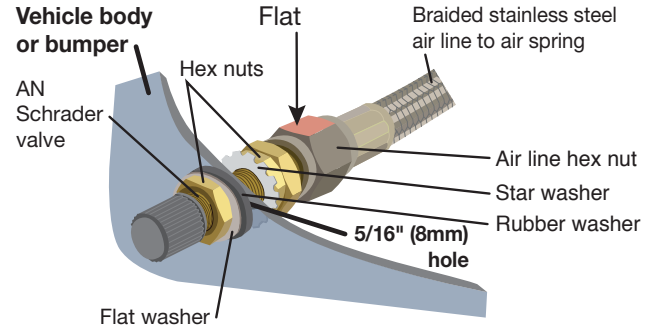
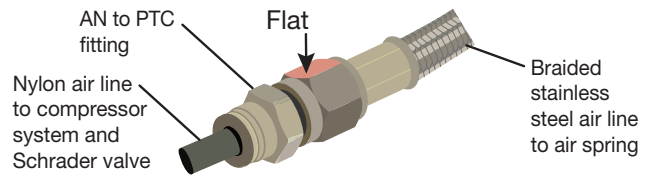

Fig. 27
Fig. 28
2. Tighten the air line hex nut finger-tight, then use 2 wrenches to turn 1 additional flat (1/6 of one full turn). **Do not overtighten** (Fig. 27 or Fig. 28). The easiest way to tighten the fitting is off the vehicle. Install the Schrader valve in the chosen location.